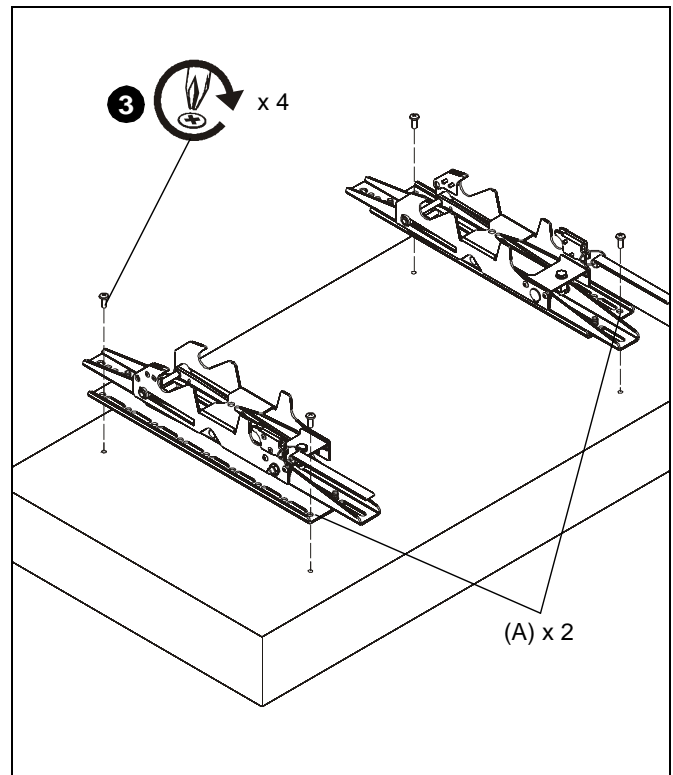

Figure 2
3. Use four M6x16mm Phillips machine screws (included with mount) to attach extender brackets (A) to display. (See Figure 2)